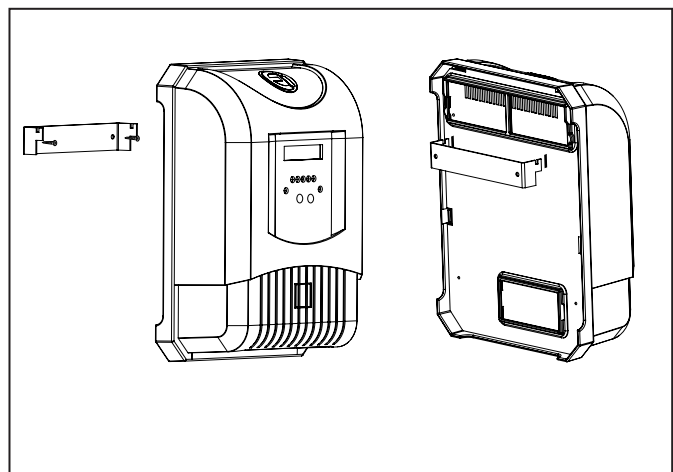

Figure 4. Attaching the Power Pack
2. Screw the power pack bracket into position on a wall surface where it will mount securely, while ensuring it is no more than 4.6 m (15 ft.) from the cell (see Figure 4).
3. Position the power pack in place by aligning the bracket with the corresponding thru-holes (see Figure 4).